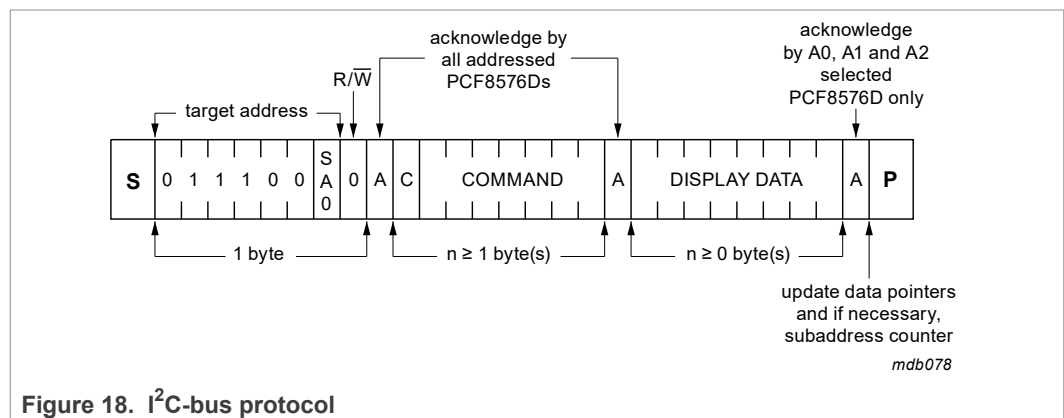

Figure 18. I2C-bus protocol
The I2C-bus protocol is shown in Figure 18. The sequence is initiated with a START condition (S) from the I2C-bus controller which is followed by one of two possible PCF8576D target addresses available. All PCF8576Ds whose SA0 inputs correspond to bit 0 of the target address respond by asserting an acknowledge in parallel. This I2C-bus transfer is ignored by all PCF8576Ds whose SA0 inputs are set to the alternative level.